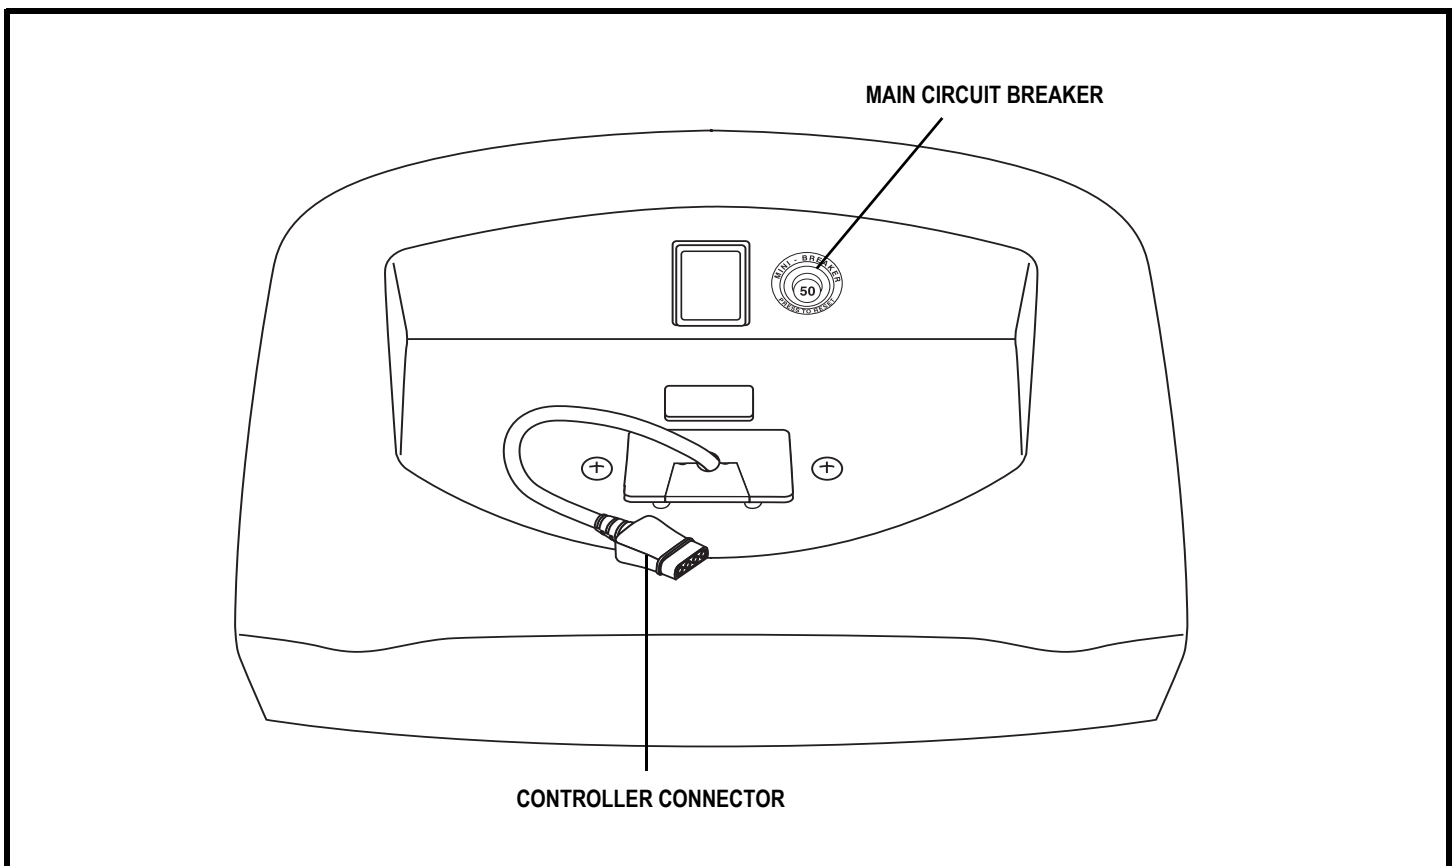

Figure 6. Jazzy Select 14 Series Electronic Components
The electrical components are located on or inside the power base. The controller connector and circuit breaker are located on the electronics tray. The power module is located inside the power base. See figure 6.
5. Plug the controller harness into the controller connector on the power base. See figure 6.
3. Disconnect the controller connector from the power base. See figure 6.